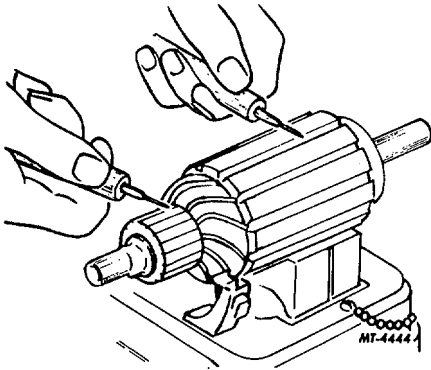

Fig. 12. Testing Armature for Grounds
- c. Grounds in the armature can be found using a test lamp and prods, see Fig. 12. If the lamp lights when one prod is positioned on the commutator and the other prod on the armature core or shaft the armature is grounded.